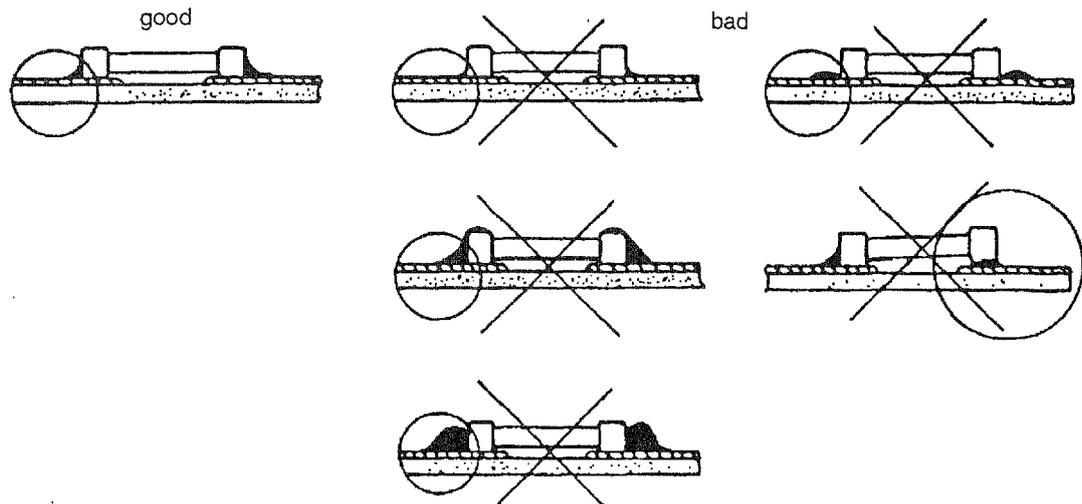

Fig. 2-3 Examples showing soldered SMDs
- Check the joint with a magnifying glass (see Figure 2-3) for bridging, dry joints, cracks and holes, the soldering surface (smooth and evenly shiny), solder drops, splashes and the correct positioning of the SMD.